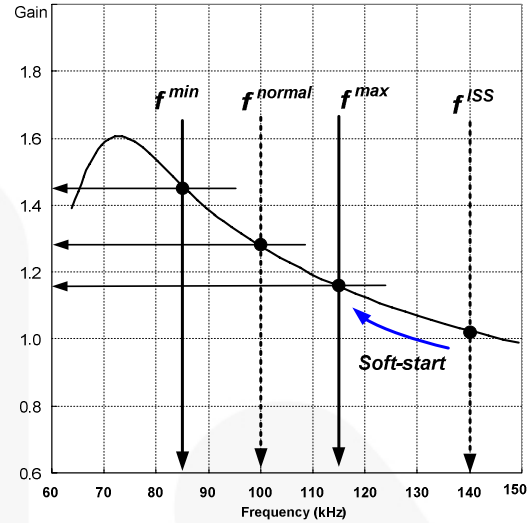
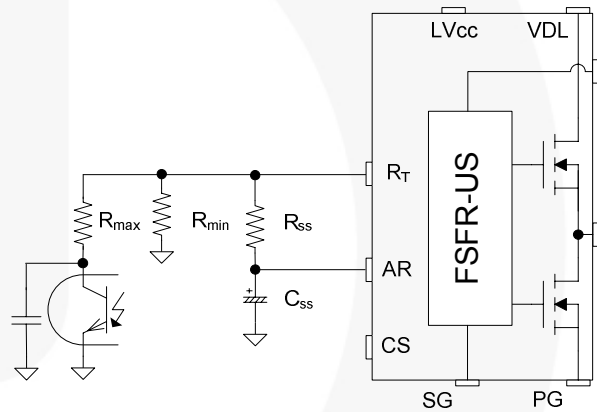
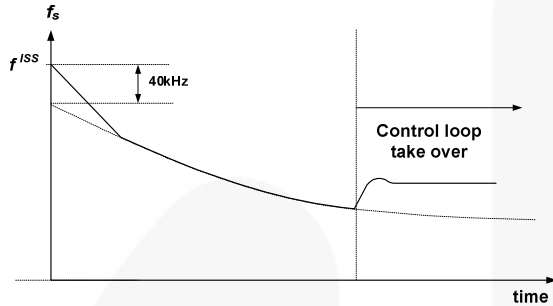

Figure 17. Resonant Converter Typical Gain Curve
Figure 18. Frequency Control Circuit
Figure 19. Frequency Sweeping of Soft-Start
3. Frequency Setting: Figure 17 shows the typical voltage gain curve of a resonant converter, where the gain is inversely proportional to the switching frequency in the ZVS region. The output voltage can be regulated by modulating the switching frequency. Figure 18 shows the typical circuit configuration for the R_T pin, where the opto-coupler transistor is connected to the R_T pin to modulate the switching frequency.
To prevent excessive inrush current and overshoot of output voltage during startup, increase the voltage gain of the resonant converter progressively. Since the voltage gain of the resonant converter is inversely proportional to the switching frequency, the soft-start is implemented by sweeping down the switching frequency from an initial high frequency (f^{ISS}) until the output voltage is established. The soft-start circuit is made by connecting R-C series network on the R_T pin, as shown in Figure 18. FSFR-US series also has an internal soft-start for 3ms to reduce the current overshoot during the initial cycles, which adds 40kHz to the initial frequency of the external soft-start circuit, as shown in Figure 19. The initial frequency of the soft-start is given as: